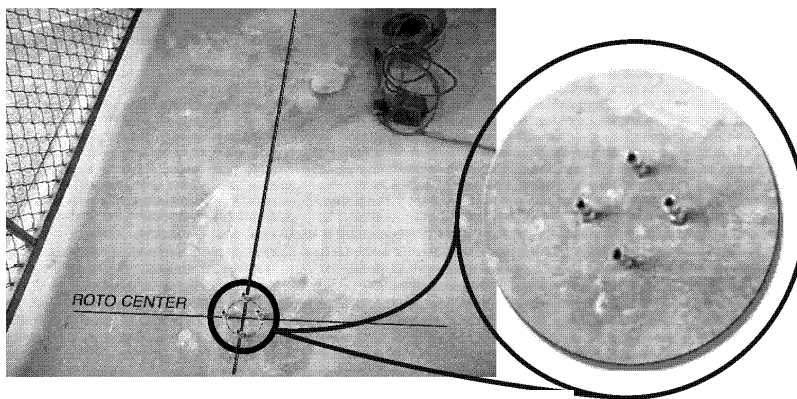

Figure 3.4 - Anchors inserted and ready to be tapped flush into the holes.
5. Insert one anchor into each drilled hole. Ensure that the anchors are flush with the concrete floor. See Figure 3.4.